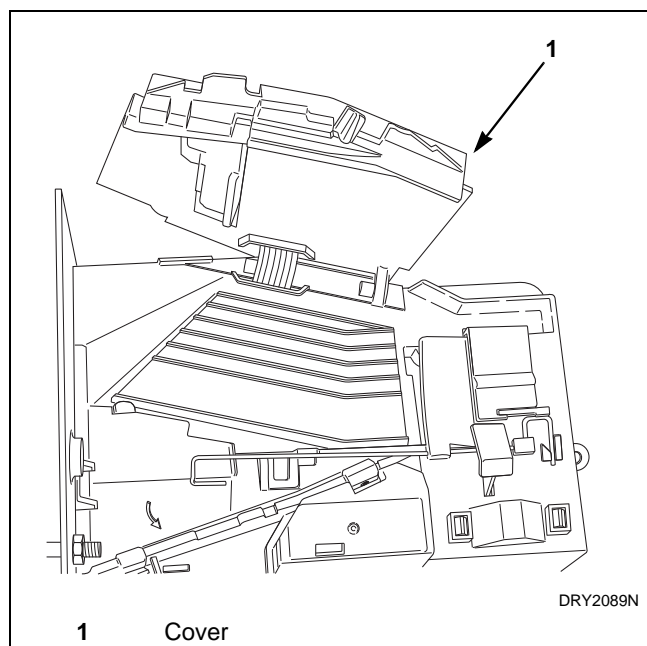

Figure 11
- b. Open cover for coin drop. Refer to *Figure 11*.